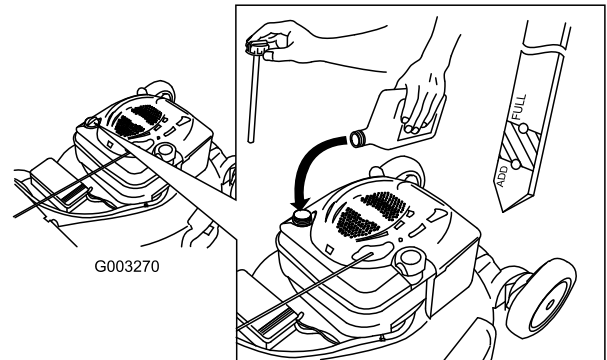

Figure 6
1. Remove the dipstick (Figure 6).
2. **Slowly** pour oil into the oil fill tube until the oil level reaches the Full line on the dipstick (Figure 6). **Do not overfill.** (Max. fill: 20 oz. (0.59 l), type: SAE 30 detergent oil with an API service classification of SF, SG, SH, SJ, SL, or higher.)